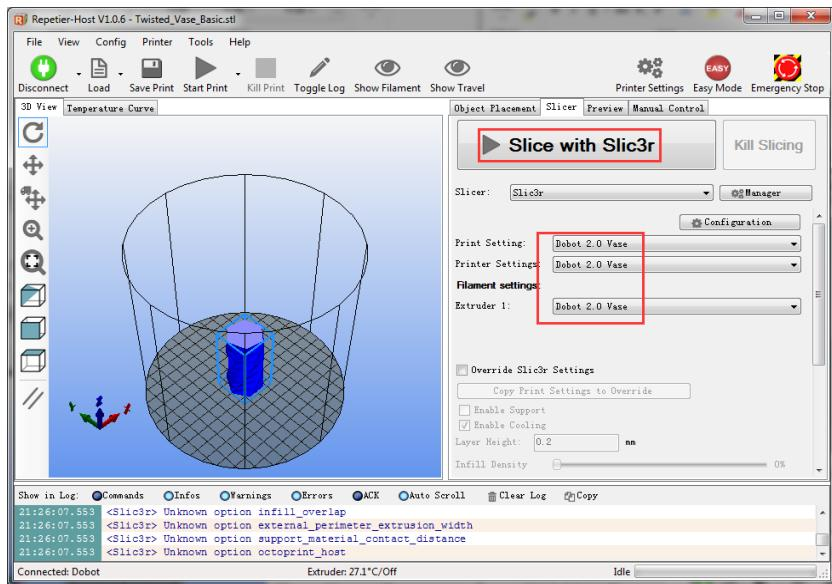

Figure 5.142 Start to slice
4. Click **Slice with Slic3r** on the **Slicer** tab of the **Repetier Host** page, as shown in Figure 5.142.